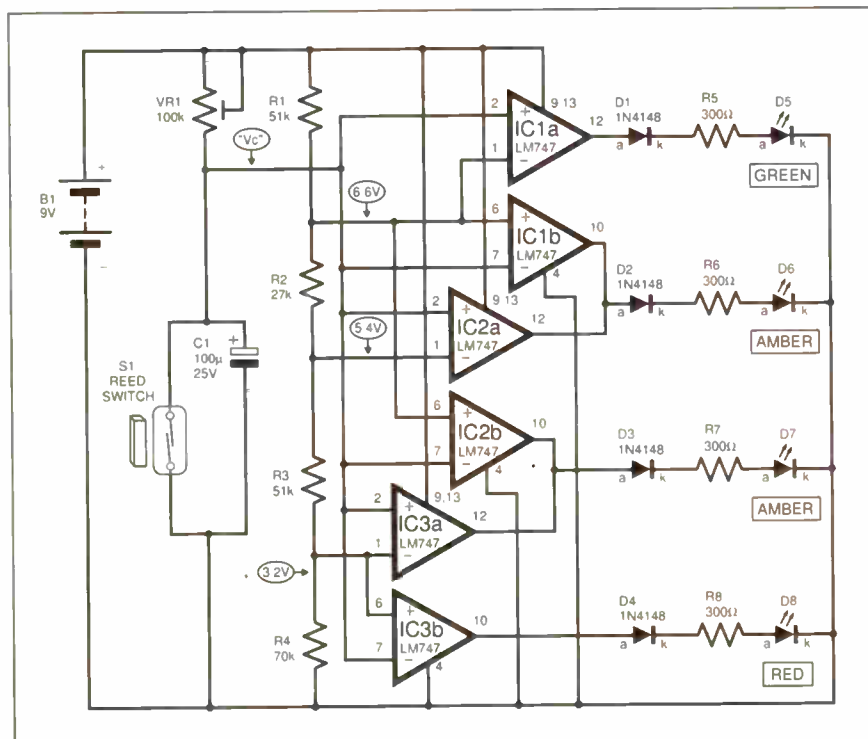

Fig.1. Circuit diagram for Model Railway Signal Lights.
**A** PROJECT which controls a set of British model railway lights, similar to those used at the ends of railway stations to signal to the loco driver whether it is safe to proceed or not, is shown in Fig.1.